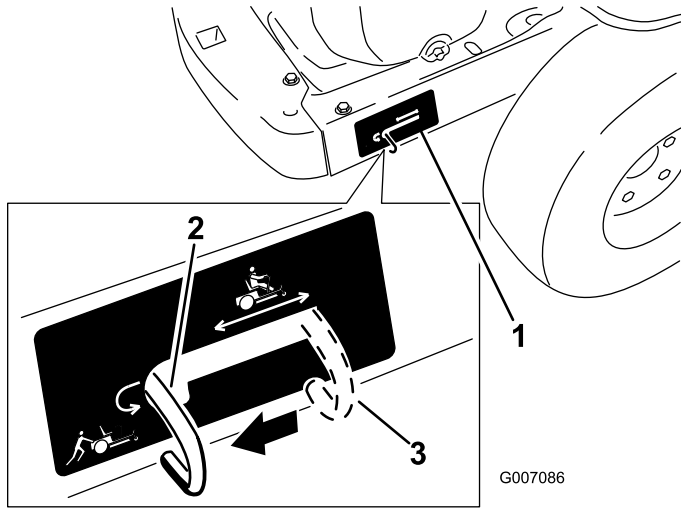

Figure 19
4. Move the bypass levers rearward and then down to lock them in place as shown in Figure 19 to disengage the wheel motors. Repeat this on each side of the machine.
Move the bypass levers upward and push them forward, to the **middle** of the horizontal slot (Figure 19) to engage the wheel motors.